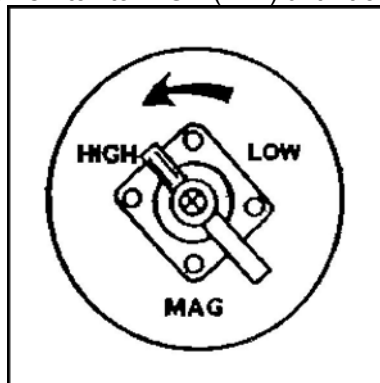

Figure 5. MAG switch.
6. Gunner moves the magnification switch to HIGH (12X) until it clicks (Figure 5).